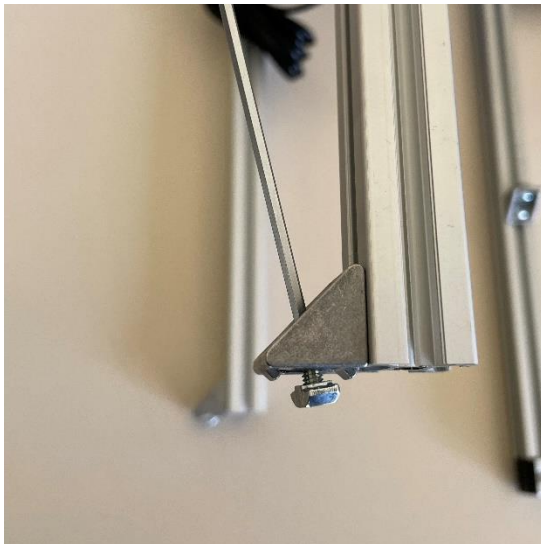

Fig. 4: Assembly step 2.
- 2- Fix the Control unit to the main aluminium frame. You first need to loosen the M4 V-nut on the two aluminium bars already attached to the Control Unit and their counterpart V-nuts on the main frame with a 2.5mm Hex tool (**Fig. 4**).